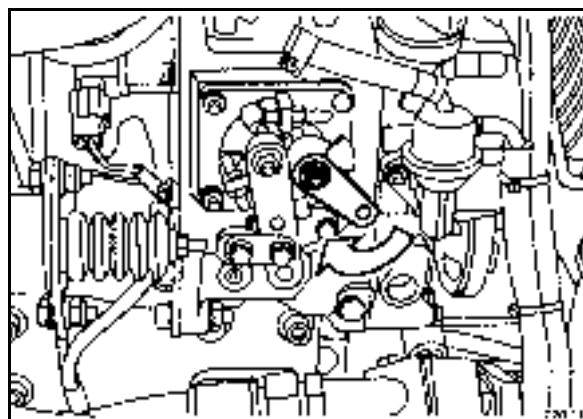

Fig. 59
- Keep the hand lever (Fig. 59) on the engine depressed, until the engine shuts down.